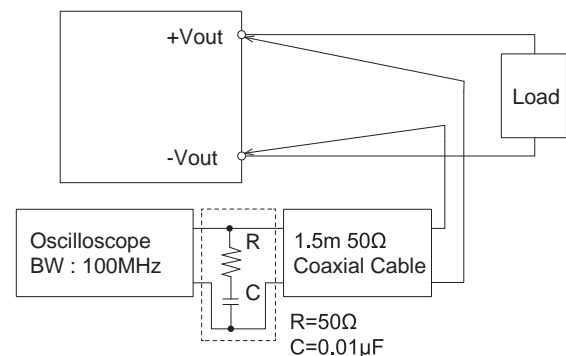

Fig1.2 Method of Measuring Output Ripple and Ripple Noise
- The specified ripple and ripple noise are measured by the method introduced in Fig 1.2.